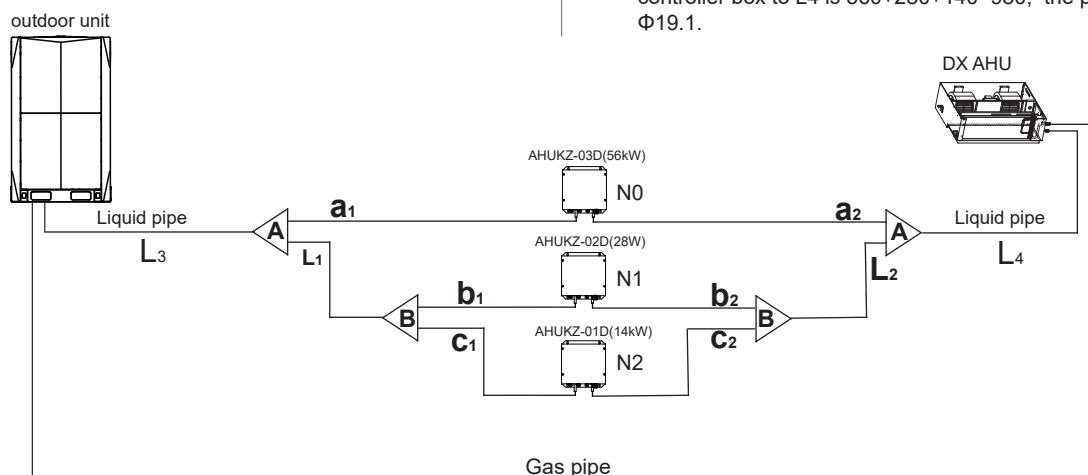

Figure 3-8
e.x. 1: Refer to Figure 3-8, the capacity of downstream controller box to L4 is 560+280+140=980, the pipe is Φ19.1.